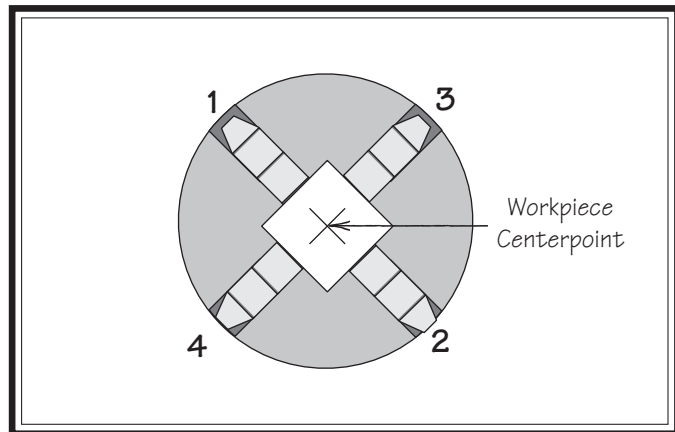

Figure 43. 4-jaw tightening sequence.
5. Tighten each jaw in small increments. After you have adjusted the first jaw, continue tightening in an opposing sequence, as shown in **Figure 43**.